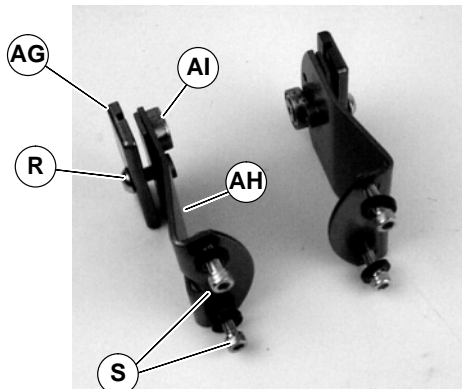

Figure 21
1. Gather components (Figure 21).